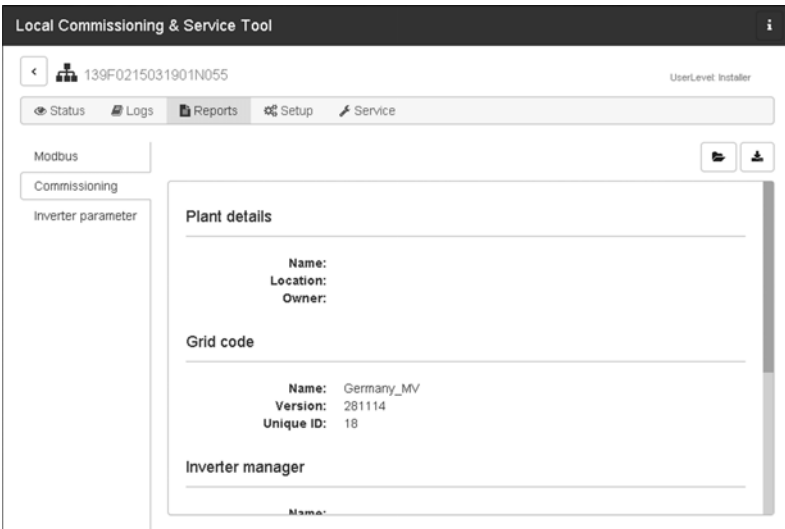

Figure 5.9 LCS tool - commissioning report
13. During commissioning it is possible to download a commissioning report in the **Reports** menu. The report contains information about inverter settings, including actual disconnection values for each inverter. By clicking the folder icon in the menu **Reports**, it is possible to open a folder for commissioning reports (incl. grid code information). See figure 5.9.